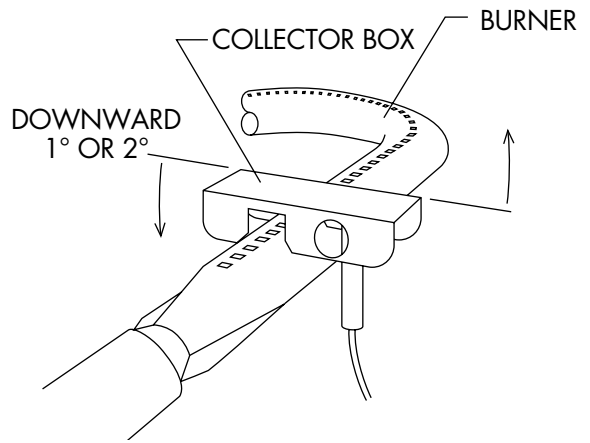

FIG. 24
5. Tilt the collector boxes. (See Fig. 24)
7. If all connections are found to be correct and burner(s) still will not light, tilt collector box downward one (1) or two (2) degrees. This may be done by loosening the screw on the glow wire side of collector box and tilting the glow wire side of collector box downward. (See Fig. 24)